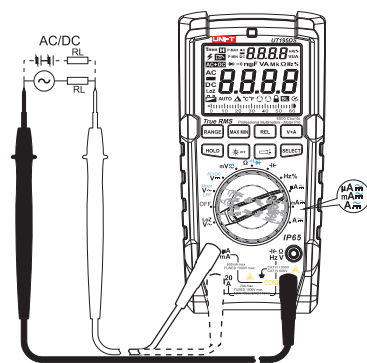

Figure 8
11. AC/DC Current Measurement (See Figure 8)